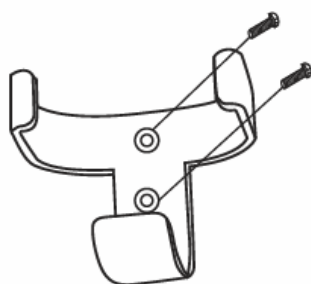

Fig. 10a
1. Locate a suitable wall to fix the remote control holder with the 2 screws. (Fig. 10a).